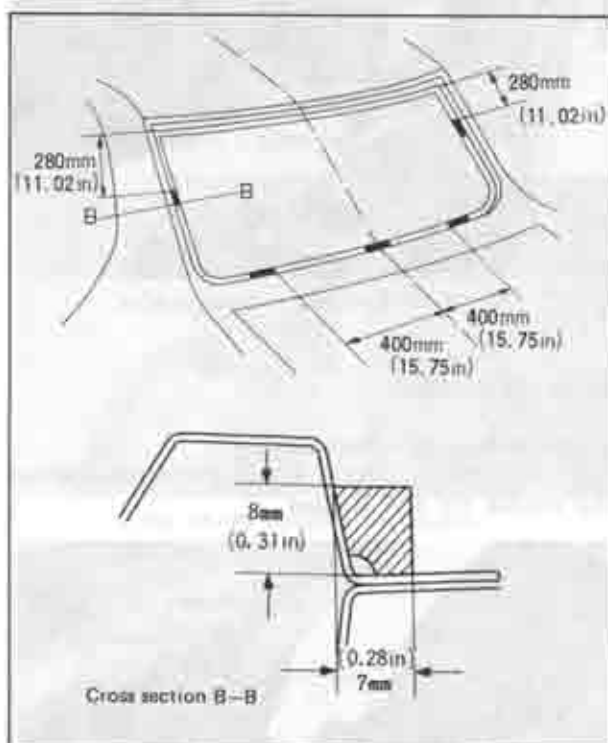

Fig. 14-34 Position spacers
3. The directions and positions each spacer to be bonded are shown in Fig. 14-34.